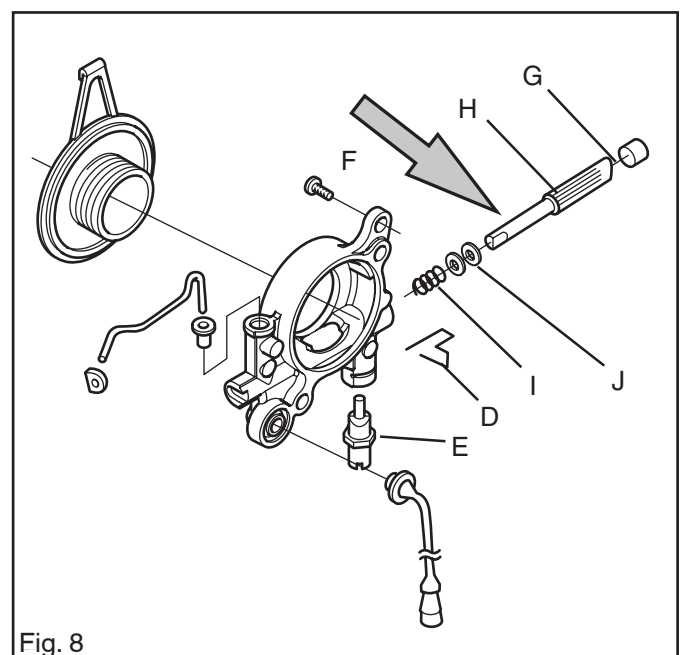

Fig. 8
2. Place the spring (I), the 2 washers (J) and pump piston (H) in the pump housing. Oil all parts with chain oil. See fig. 8
3. Use a screwdriver to press in the pump piston and adjust the adjuster screw to its home position (E). See fig. 8
4. Fit the cover plug (G). See fig. 8
5. Fit the clip (D). See fig. 8.
The pump feed rate is adjusted with the adjuster screw (E) in fig 8. The table shows the number of turns from the home position for respective bar lengths. The table applies to Husqvarna chain oil.